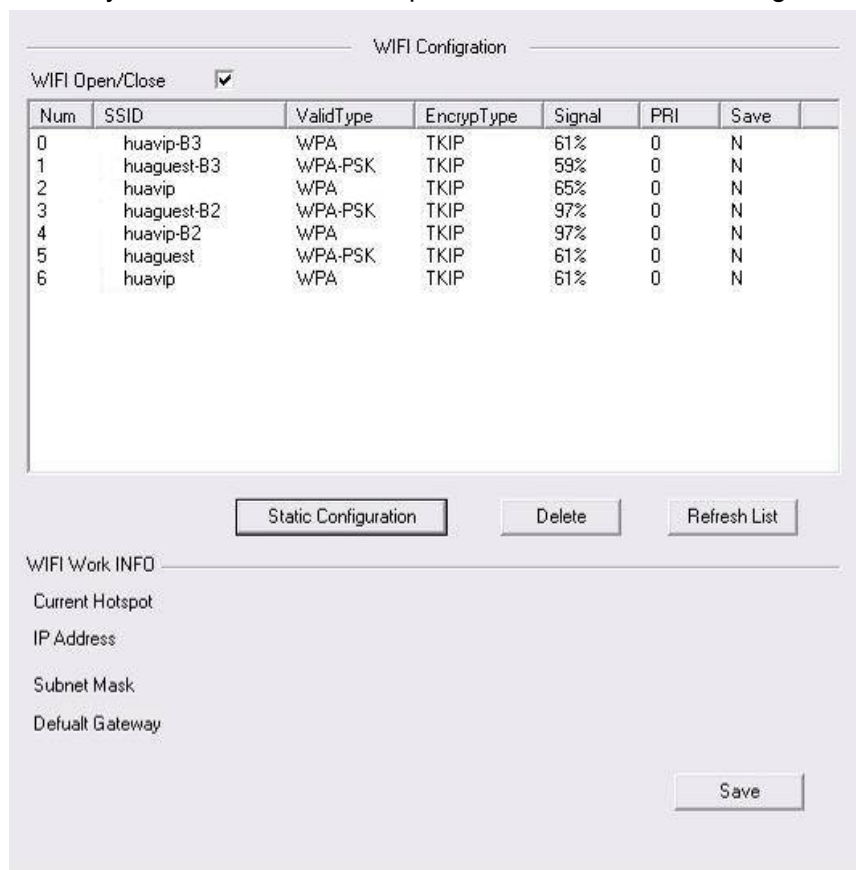

Figure 7-58
Step 3. After enabled the WIFI function, click the Save button. System begins to search the network automatically. You can view the hotspot information in the following list. See Figure 7-58.
Step 4. In Figure 7-58, click the refresh list button, you can view the latest hotspot information (SSID)